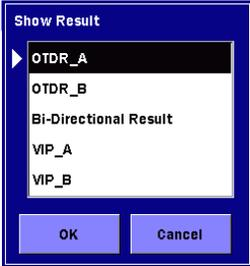

Figure 7.3.9-3 Show Result Dialog Box
1. Touch **Start Test** softkey or press  , and you will see the Test/Results screen shown in Figure 7.3.9-1 “Test/Result Screen”.